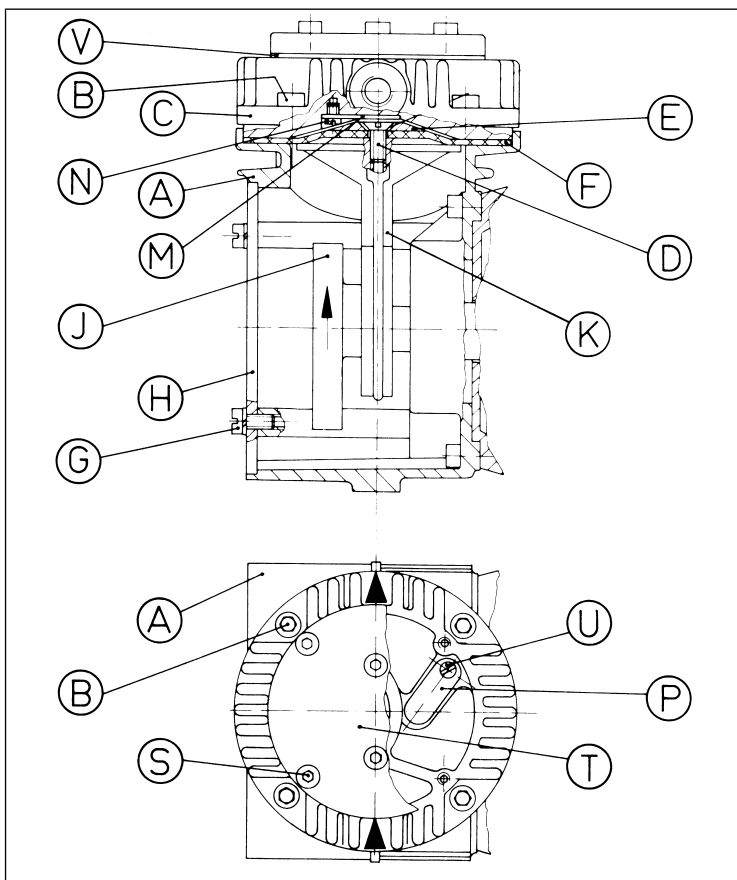

Fig.5: Pump parts
\*\* According to Fig. 5
Acc. to Fig. 5
Replaced diaphragm and valves.	<ul style="list-style-type: none"> <li>→ Check the hoses for leaks.</li> <li>→ If necessary, carefully tighten the screws (B) and/or (S) (see Fig. 5) crosswise.</li> </ul>